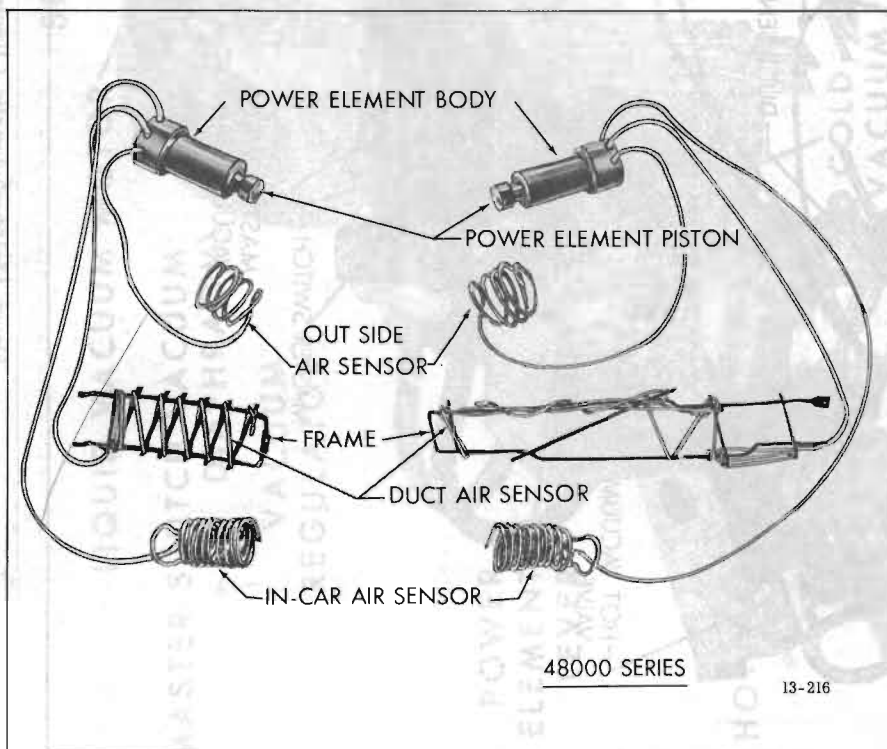
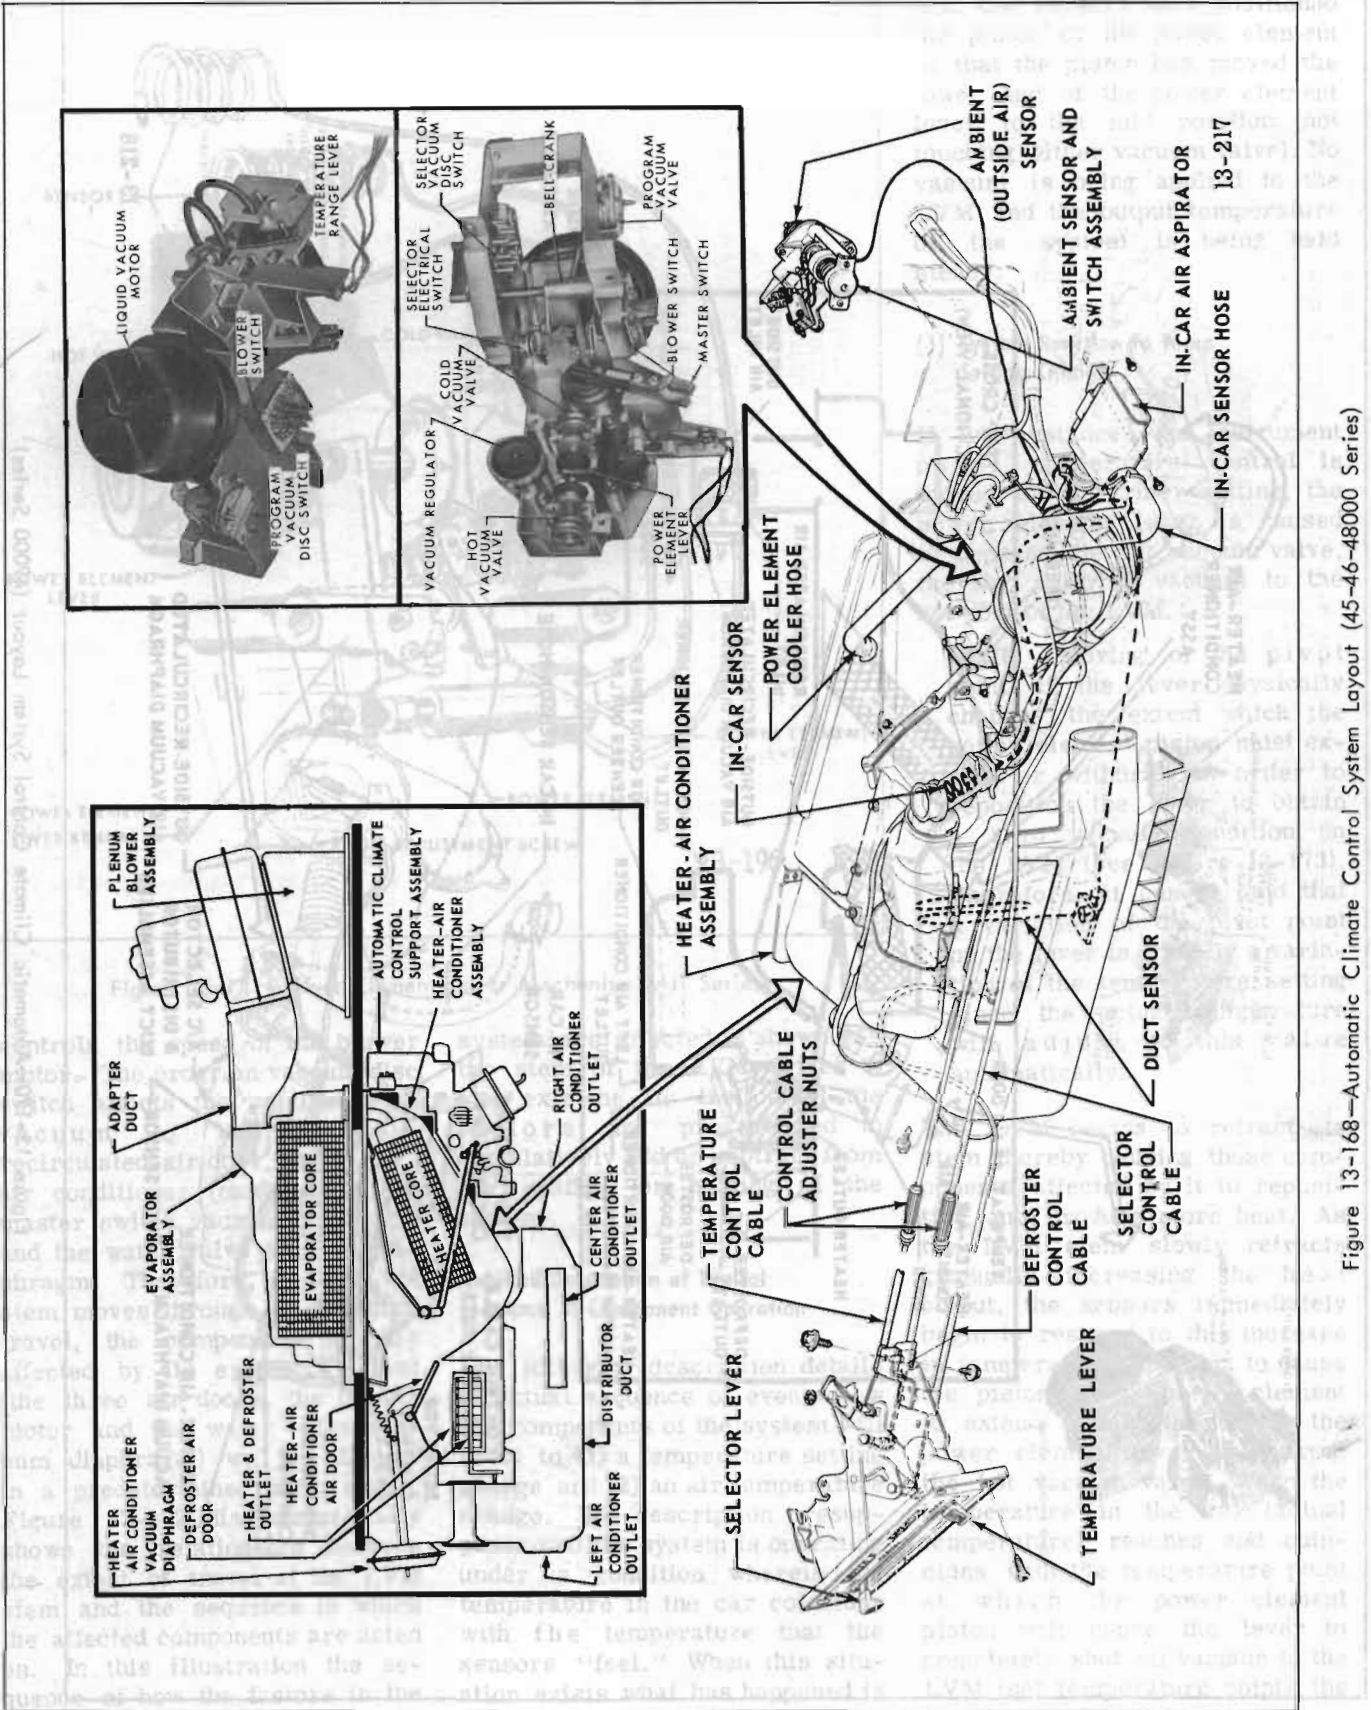
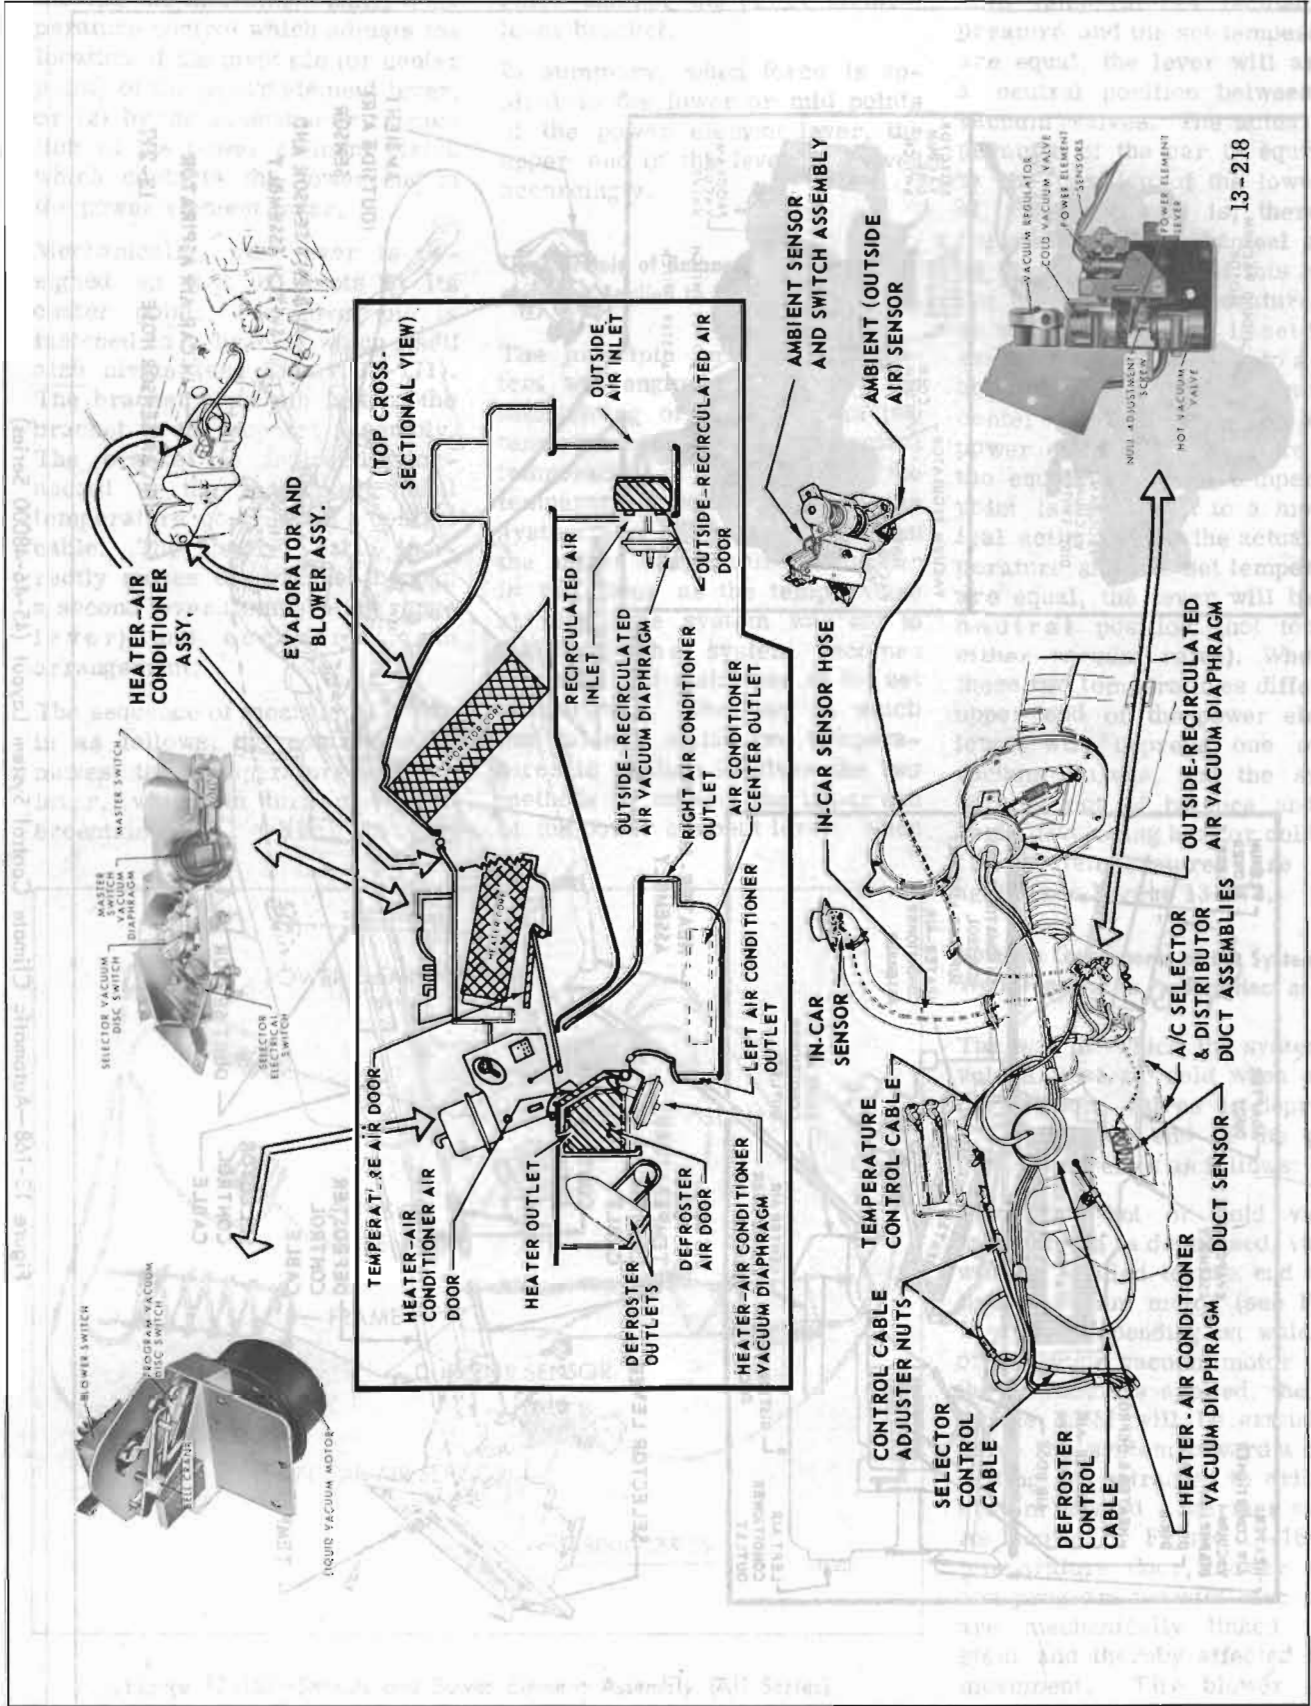
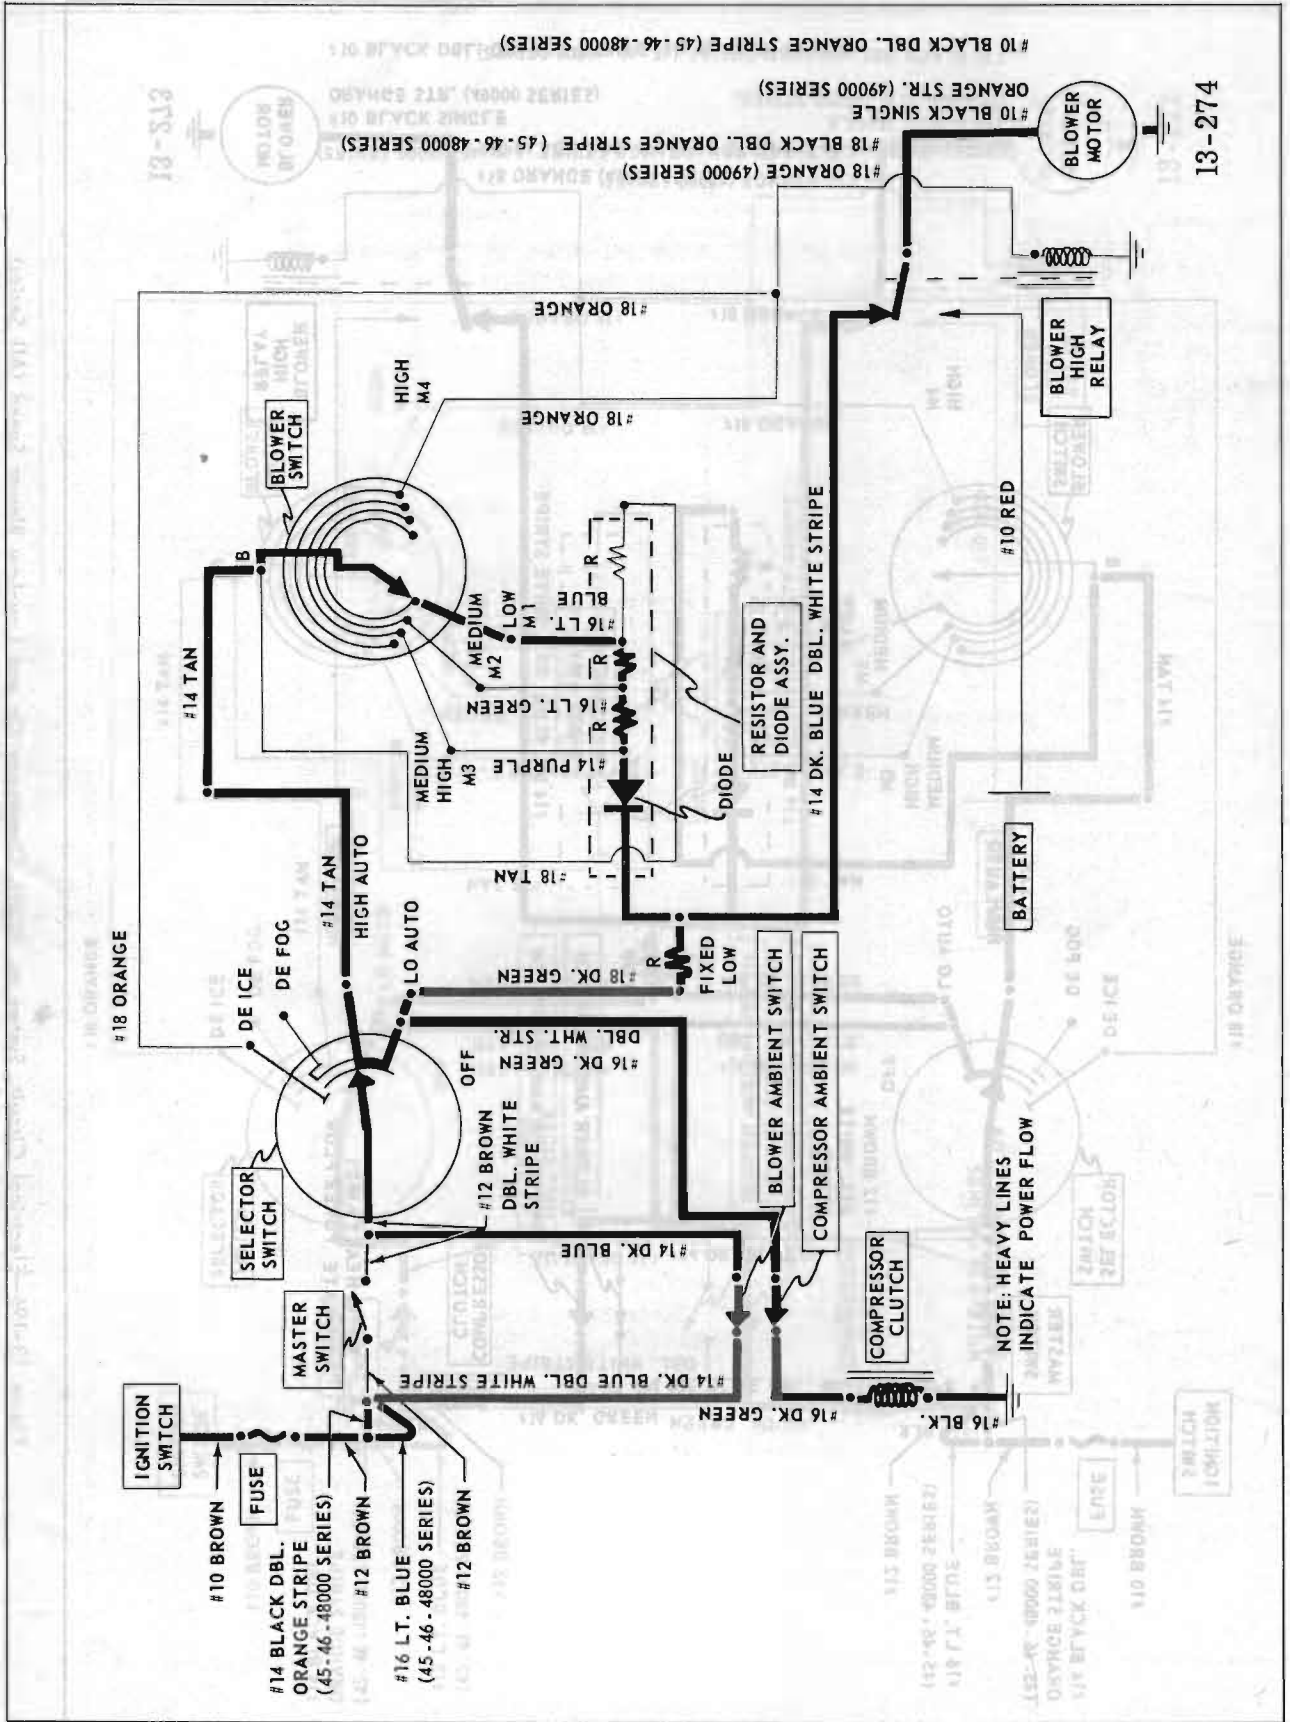

Figure 13-167—Sensors and Power Element Assembly (All Series)
Figure 13-168—Automatic Climate Control System Layout (45-46-48000 Series)
Figure 13-170—Automatic Climate Control System Layout (4900 Series)
Figure 13-197—Electrical Circuit, System on HIGH, Compressor On and Low Blower Speed (Initial Startup Condition with 65°F or Higher Ambient) (All Series)
To adjust the temperature control cable rotate the cable adjuster nut (color coded red), see Figure 13-168 or 13-170, until a slight springback action is obtained when the instrument panel temperature lever is positioned at either end of its travel.
3. Move the selector lever at instrument panel to the HIGH position and then rotate selector control cable adjuster nut (see Figures 13-168 and 13-170) until loop on end of control cable is centered over selector link pin.
The sensors and power element assembly (see Figure 13-167) is the component which measures the air temperature and is the heart of the system. This component physically responds to the air temperature changes and converts the temperature variations into a mechanical action or force. The three sensors are situated about the car so that they sense (1) the temperature the system is delivering (duct sensor located in the heater-air conditioner assembly for 45-46-48000 Series and in the a/c selector and distributor duct assembly for 49000 Series), (2) the temperature of the air in the car (in-car sensor located under the instrument panel grille), and (3) the temperature of the outside air (outside air sensor located on the ambient sensor and switch assembly). See Figures 13-168 and 13-170.
The three sensors work in combination to move the power element piston (see Figure 13-167)
Although both the 45-46-48000 Series system and the 49000 Series system have in essence the same components, they are different insofar as the various electrical and vacuum switches are located in different areas due to the variation between the body styles (see Figures 13-168 and 13-170). The following description of each component will apply to all series cars. The description of the components is divided
The sensors and power element assembly (see Figure 13-167) works in principle similar to a thermometer. It consists of three hollow copper lines connected to a cylinder to which is fitted a piston at one end. The tubes are filled with a glycol liquid which expands or contracts in accordance with the temperature. Depending on the expansion or
contraction of this liquid, the piston in the cylinder or the body of the assembly is pushed outward a specific amount. The ends of the three copper lines (capillaries) are coiled and situated at different points in the system in order to measure the outdoor, in-car and duct air temperatures (see Figures 13-168 and 13-170).
On the 45-46-48000 Series cars, these switches are located on the support casting attached to the heater air conditioner assembly (see Figure 13-168) situated under the instrument panel. On 49000 Series cars, these switches are still located on the heater-air conditioner assembly, however, the assembly is situated on the engine side of the cowl (see Figure 13-170). The action of both switches is linked together and is in turn controlled via a control cable attached to the instrument panel selector lever. Use of this lever by the operator provides for manual control of the selector vacuum disc and electrical switches. These two switches in turn control the vacuum and electrical circuit pattern that the program vacuum disc switch and the blower switch will be capable of varying within.
The instrument panel control assembly (see Figures 13-168 and 13-211), consists of two sliding levers. The temperature lever sets the temperature at which the system is to operate. The temperature control cable connects the instrument panel temperature lever to the temperature range lever.
switch assembly (see Figures 13-168 and 13-170) which is mounted under the instrument panel against the plenum chamber. The two switches are actuated by a temperature sensitive power element. The power element portion of the assembly extends through a hole in the plenum chamber and senses the temperature of the outside air. Depending on the air temperature, the compound in the power element expands or contracts and pushes on a piston which in turn trips in succession each of the ambient switches. The compressor ambient switch is in series with the compressor clutch and closes (permitting compressor to operate) at 40°F MAX or opens (breaking circuit of compressor) at 25°F MIN. This switch functions to eliminate the unnecessary operation of the compressor on cold days. The blower ambient switch closes at 72°F MAX. On initial warm-day startup, this switch permits the master switch (which is held closed by TVV because engine coolant is not warm) to be bypassed (see Figure 13-197). This arrangement permits system to begin immediate cool-down on warm days. The blower ambient switch opens at 52°F MIN, thereby preventing cold air from being blown on operator during initial cool-day start-up.
The in-car air aspirator (see Figures 13-168 and 13-170) is mounted under the instrument panel and functions to draw air through the instrument panel grille. As air passes through the aspirator it creates a negative
This hose (see Figure 13-168) serves to provide cool air flowing over the power element body in order to maintain this temperature sensitive component at a stable temperature. Because of the difference in physical arrangements, this was not necessary with 49000 Series cars.